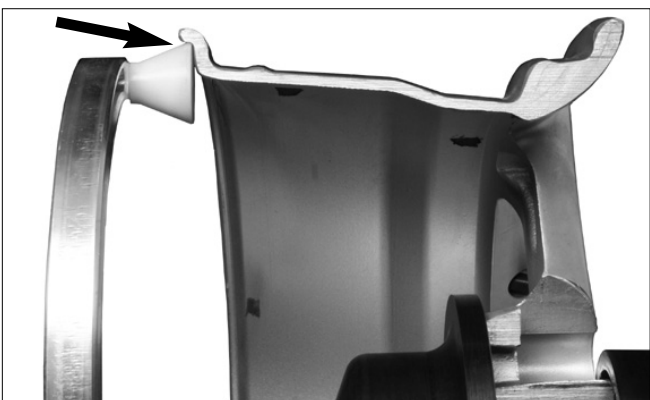
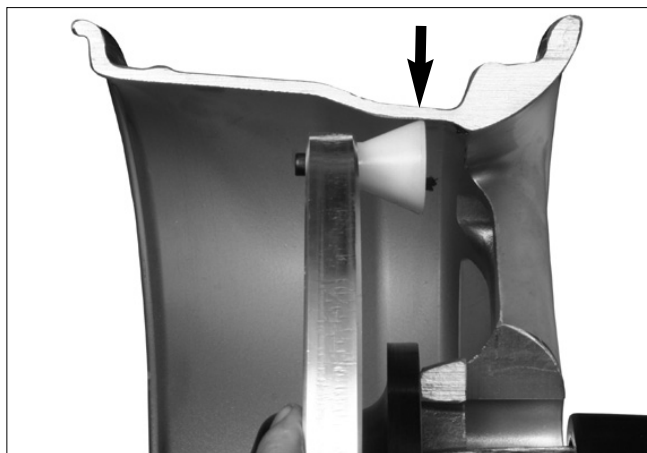
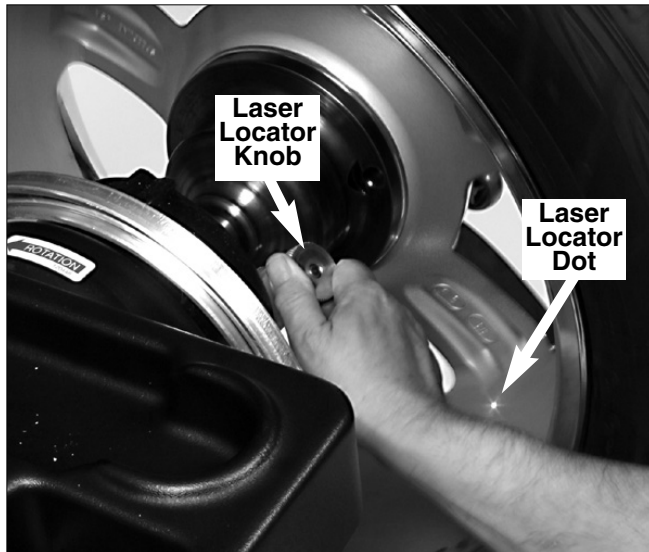
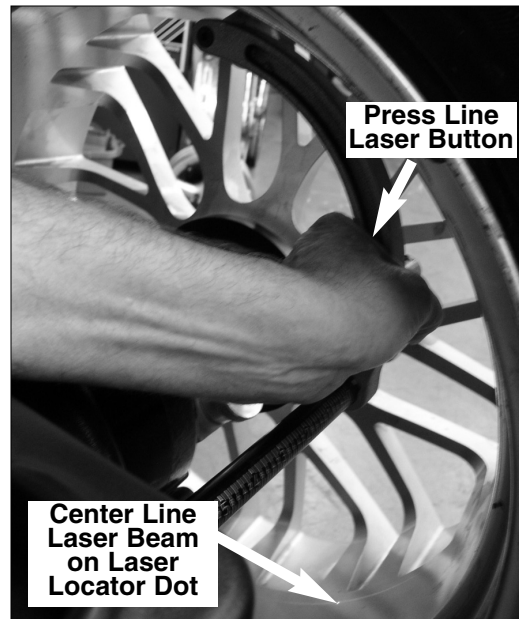

Figure 6B - Clip-on Weight Location Viewed on a Cut-Away Rim for Clarification.
Figure 7A - Hidden Weight Location Viewed on a Cut-Away Rim for Clarification.
Figure 8 - Positioning Laser Dot At T2 - Tape Hidden Weight Location (A2)
Figure 9 - Positioning Line Laser Beam At T2 - Tape Hidden Weight Location (A2)
When prompted by balancer instructions, use the offset arm (figure 6A) to enter A & D measurements automatically. Pull the arm out and up against the wheel flange; hold it still at the clip-on weight location (figure 6B), against the wheel flange, and wait for the BEEP.
Be sure to place the offset arm on the wheel flange at the clip-on weight location as shown figure 6B.
If the T2 - Tape (hidden Tape-A-Weight®) location is selected, use the offset arm to enter A2 & D2 measurements automatically. After the A & D measurement is entered, move the arm from the clip-on weight location to the inner area of the wheel; up against the rim at the outboard (right plane) weight placement location (see figures 7A & 7B). Wait for the BEEP.
If the T2 - Tape (hidden Tape-A-Weight®) location is selected, use the laser locator to point to the hidden weight location (figures 8 & 7B). Rotate laser locator knob to position the laser dot outboard (right plane) at the desired T2-Tape (hidden Tape-A-Weight™) location.
If the T2 - Tape (hidden Tape-A-Weight®) location is selected, use the line laser to align the offset arm with the laser locator dot (figures 8 & 7B); entering A2 & D2 measurements automatically. Grasp arm at the line laser and pull out and up to the wheel flange (figure 6B). Hold arm still at the clip-on weight location and wait for BEEP. Then, before returning arm to home position, press button on line laser to activate the line laser beam. Move arm to inner area of wheel and align line laser beam with laser locator dot (figure 8). Hold arm still, up against the rim, in the same plane as the T2-Tape (hidden Tape-A-Weight™) location (figure 7A & 7B) and wait for BEEP. Refer to figure 9.
3. Rotate the laser locator knob to position the laser locator dot at the desired weight location. See figures 8 & 7B.